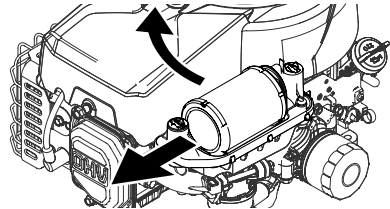

Figure 12
3. Pull up on an angle and then forward to remove the air filter (Figure 12).